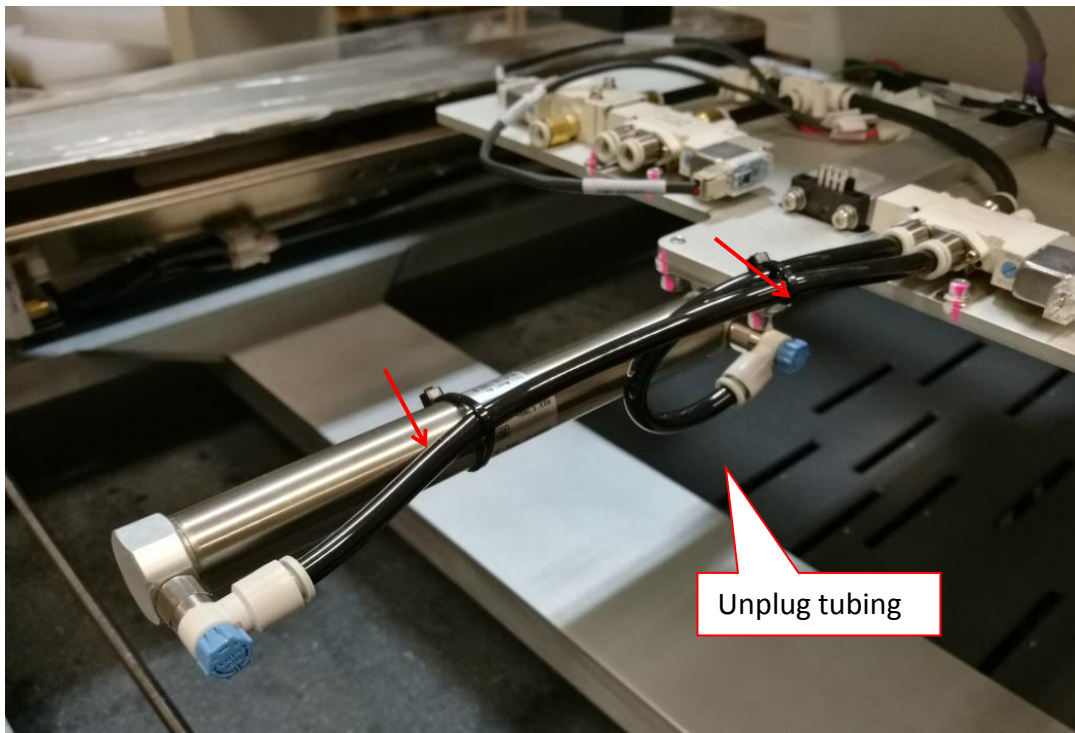

Figure 7 Tubing & cable tie removal
15. Remove Cable Tie & 2 x Tubing as shown in Figure 7